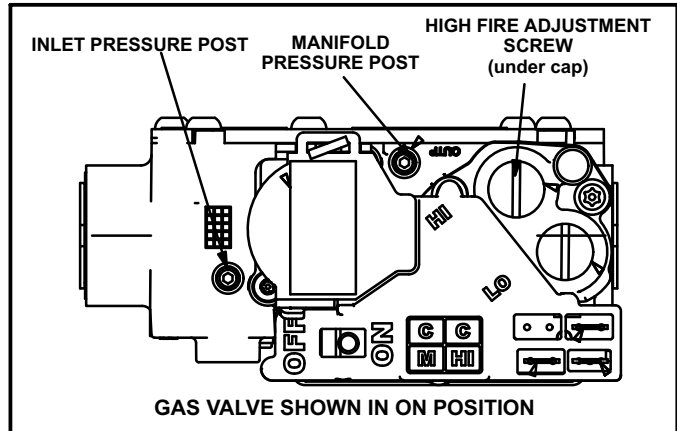

FIGURE 34
Gas Valve Operation (Figure 34)
- 6 - Move switch on gas valve to **OFF**. Do not force. See figure 34.
- 8 - Move switch on gas valve to **ON**. Do not force. See figure 34.
An inlet post located on the gas valve provides access to the supply pressure. See figure 34. Back out the 3/32" hex screw one turn, connect a piece of 5/16" tubing and connect to a manometer to measure supply pressure. See table 14 for supply line pressure.
access to the manifold pressure. See figure 34. Back out the 3/32 hex screw one turn, connect a piece of 5/16" tubing and connect to a manometer to measure manifold pressure.
- 1 - Connect test gauge to manifold pressure post (figure 34) gas valve.
- 4 - If necessary, make adjustments. Figure 34 shows location of high fire adjustment screw.